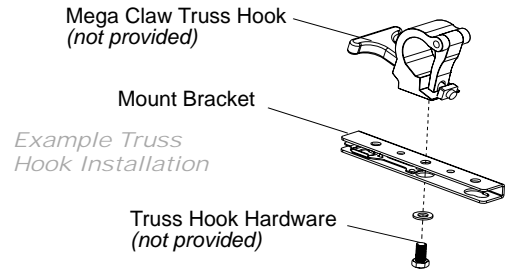

Figure 8: Truss Hook Installation
- Step 1. Install truss hooks on two provided truss hook brackets as required as shown in **Figure 8**.